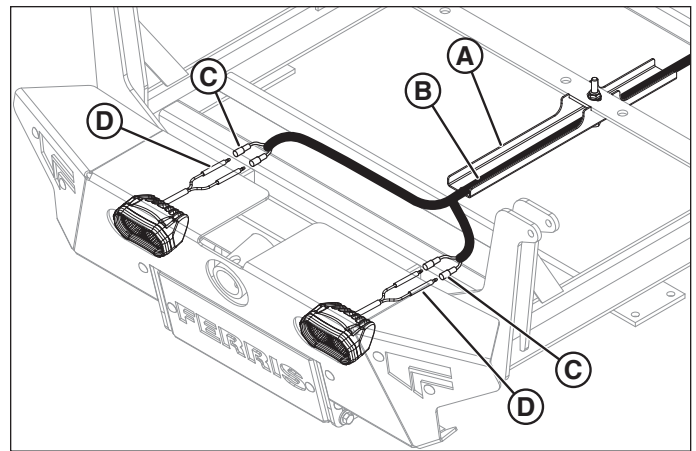
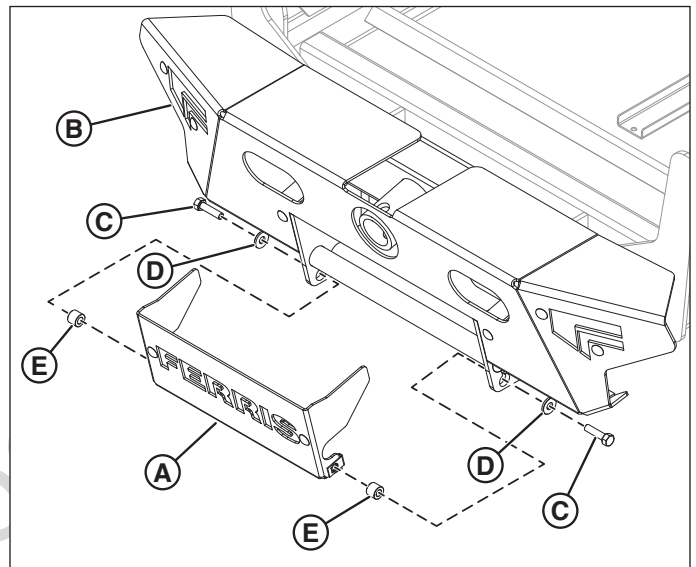

Figure 5. Headlight Connection Points
Figure 6. Install the Front Plate
14. Place the wire harness (A, Figure 5) into the wire channel (B).
15. Connect the female leads of the wire harness (C) to the male leads of the headlight switches (D).
18. Install the front plate (A, Figure 6) into the front bumper (B) using two (2) 5/16-18 X 1-1/4" bolts (C), 5/16 Gr.9 washers (D), and .50" long spacers (E).